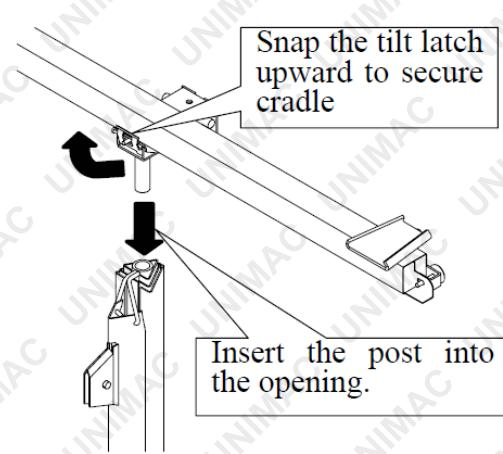

Fig. 10
- b. Secure the cradle to the frame by snapping the tilt latch upward so it hooks over the stud on the cradle as shown in Figure 10.